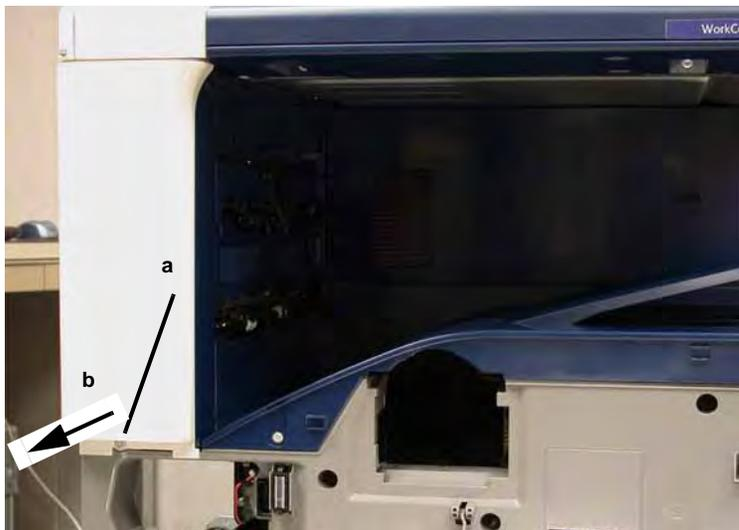

Figure 4 Removing Covers
5. Remove the Front Left Cover and Exit Front Cover (Figure 4).
a. Remove Screw (1)